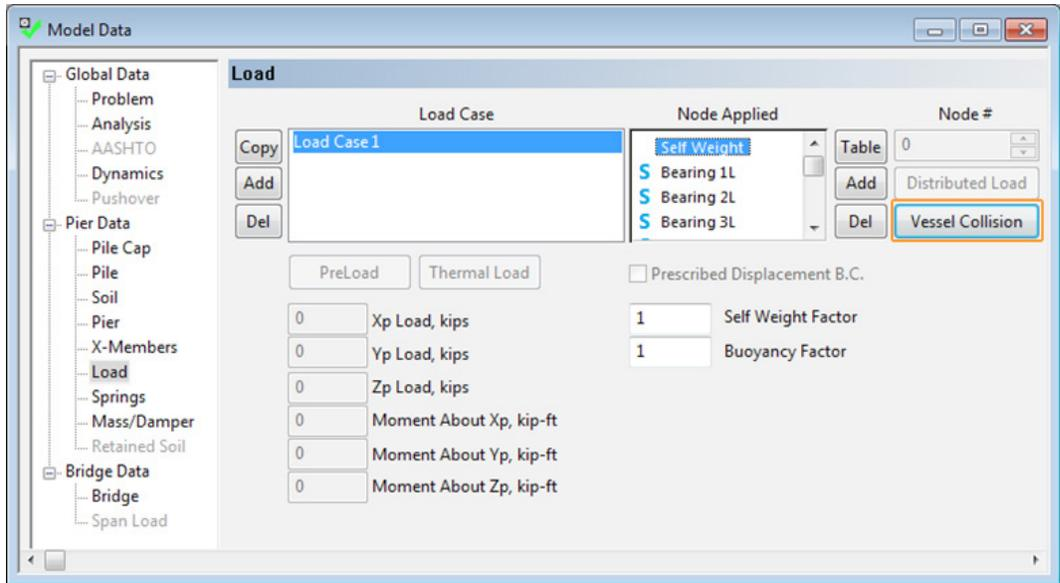

Figure 5 "Vessel Collision" button on the "Load" Page.
3. Select "Pier #3" from the toolbar and navigate to the "Load" page (Figure 5) to apply the dynamic vessel collision load.